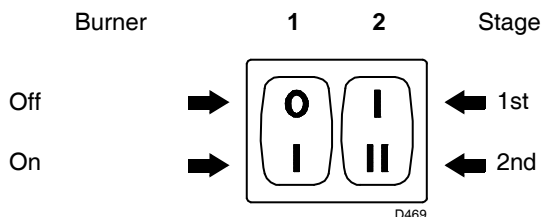
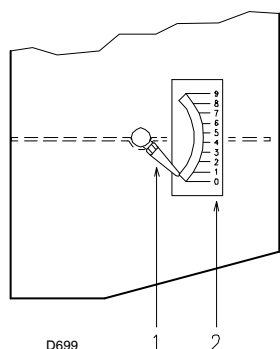
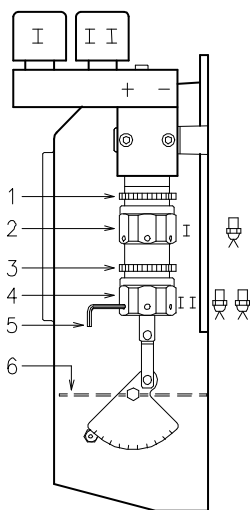

Fig. 22
Fig. 23
Fig. 24
Set switch 1) (Fig. 22) to "ON".
Keep the burner operating at 1st stage by setting the switch 2) (Fig. 22) to the 1st stage position. Opening of the air gate valve 6) (Fig. 24) must be adjusted in proportion to the selected nozzle: the index 1) (Fig. 23) must be aligned with the notch 2) (Fig. 23) specified in table (Tab. E) This adjustment is achieved by turning the hex element 2) (Fig. 24):
2.3 notch (Fig. 23) aligned with index 1).
When the adjustment is terminated lock the hex element 2) (Fig. 24) with the ring nut 1).
N° = Notch 2)(Fig. 23)
Set switch 2) (Fig. 22 page 21) to the 2nd stage position and adjust the air gate valve 6)(Fig. 24) by turning the hex element 4)(Fig. 24), after having loosened the ring nut 3)(Fig. 24).
in order to facilitate adjustment of hex elements 2) and 4)(Fig. 24), use a 3 mm Allen key 5) (Fig. 24).